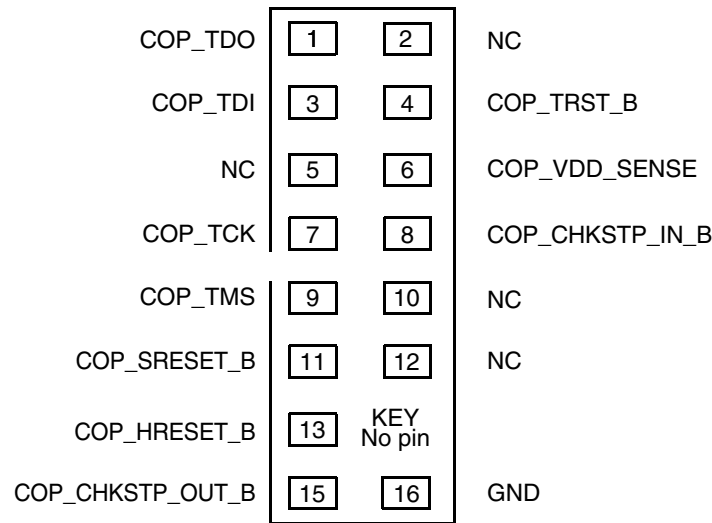
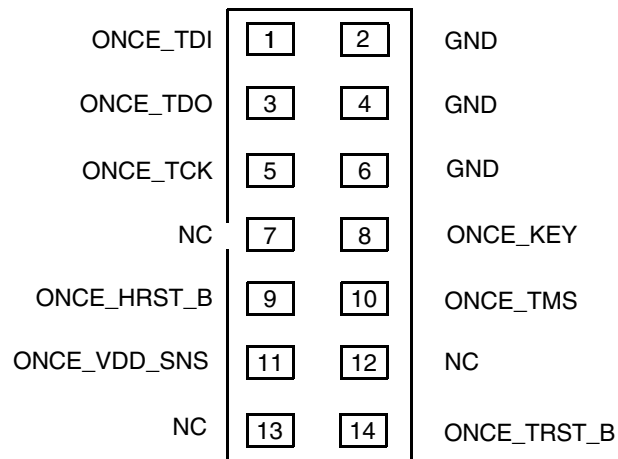

Figure 59. COP Connector Physical Pinout
Figure 60. ONCE Connector Physical Pinout
Correct operation of the JTAG interface requires configuration of a group of system control pins as demonstrated in Figure 59. Care must be taken to ensure that these pins are maintained at a valid deasserted state under normal operating conditions, because most have asynchronous behavior, and spurious assertion gives unpredictable results.
The COP function of the processor allow a remote computer system (typically, a PC with dedicated hardware and debugging software) to access and control the internal operations of the processor. The arrangement shown in Figure 59 and Figure 60 allows the COP/ONCE port to independently assert HRESET_B or TRST, while ensuring that the target can drive HRESET_B as well.
The COP interface has a standard header for connection to the target system. The 16-pin PA COP connector is shown in Figure 59.
The ONCE interface also has a standard header for connection to the target system. The 14-pin DSP ONCE connector is shown in Figure 60.
- TRST_B should be tied to HRESET_B through a 0 k Ω isolation resistor so that it is asserted when the system reset signal (HRESET_B) is asserted, ensuring that the JTAG scan chain is initialized during the power-on reset flow. NXP recommends that the COP header be designed into the system as shown in Figure 59. If this is not possible, the